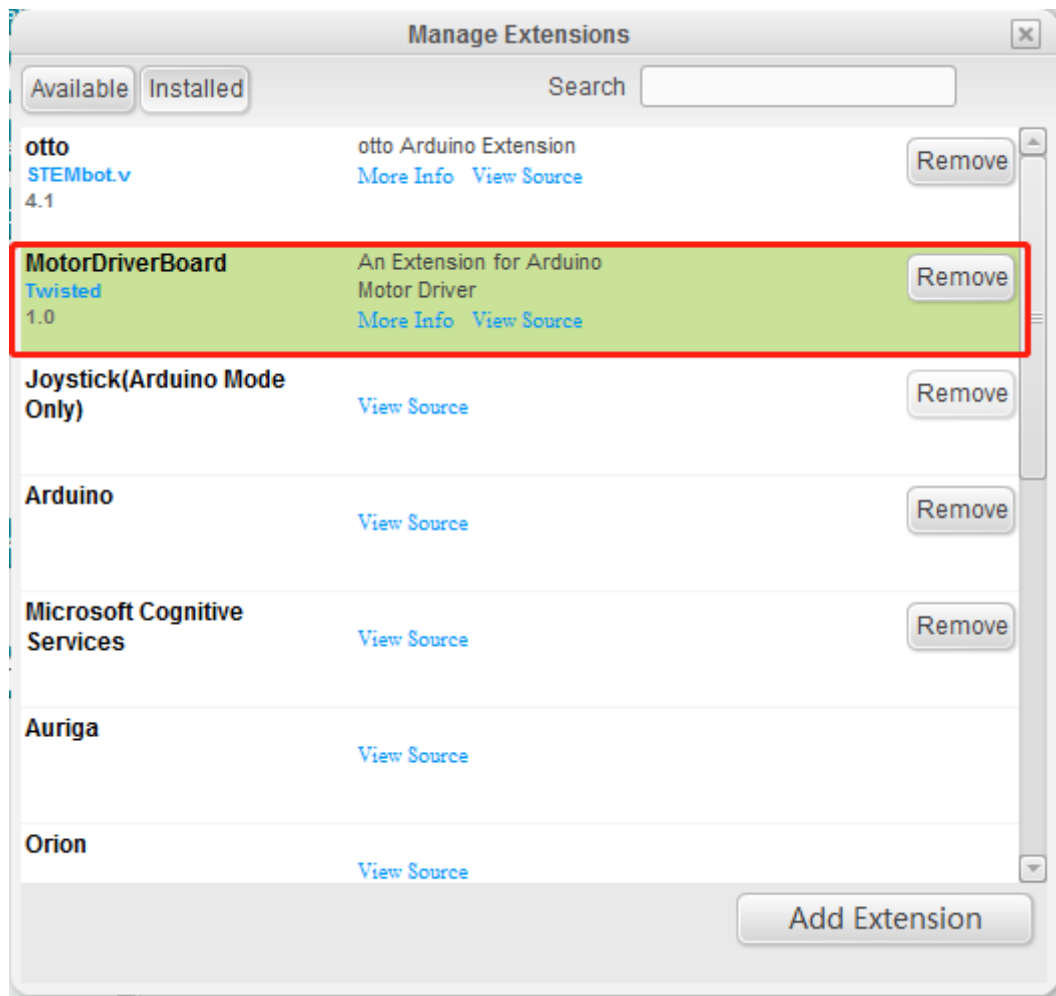

Figure 2-4
- 5) In the “Extension Manager”, click “Installed”, you will see that the MotorDriverBoard library has been successfully added, as shown in Figure 2-4;